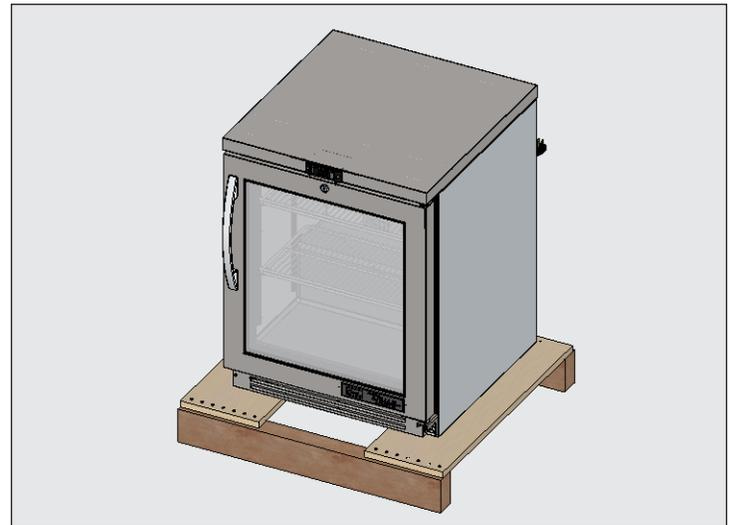

Fig. 1. Remove the existing packaging.
1. Remove the outer packaging (cardboard and bubble wrap or Styrofoam corner and clear plastic). See fig. 1. Inspect for concealed damage. **Again, immediately file a claim with the freight carrier if there is damage.**